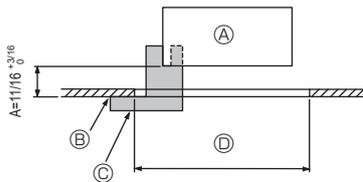
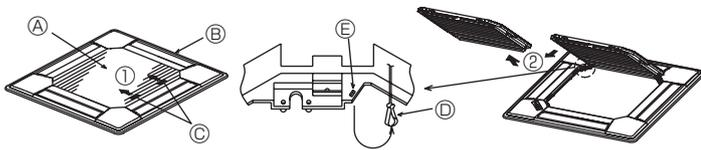
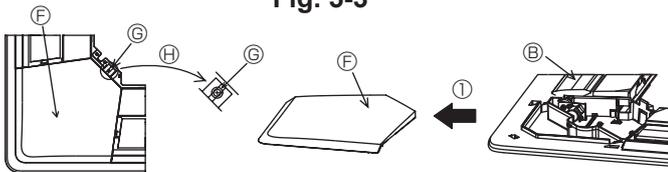

Fig. 5-2
Fig. 5-3
Fig. 5-4
①	Grille	1	950 × 950 (mm), 37-3/8 × 37-3/8 (inch)
②	Screw with captive washer	4	M5 × 0.8 × 25
③	Gauge	1	(Divided into four parts)
④	Fastener	3
⑤	Screw	4	4 × 8
⑥	Screw	1	4 × 12
5.2. Preparing to attach the grille (Fig. 5-2)
- With the gauge ③ supplied with this kit, adjust and check the positioning of the unit relative to the ceiling. If the unit is not properly positioned relative to the ceiling, it may allow air leaks or cause condensation to collect.
- Ⓒ Gauge ③ (inserted into the unit)
5.2.1. Removing the intake grille (Fig. 5-3)
- Slide the levers in the direction indicated by the arrow ① to open the intake grille.
- With the intake grille in the "open" position, remove the hinge of the intake grille from the grille as indicated by the arrow ②.
5.2.2. Removing the corner panel (Fig. 5-4)
- Remove the screw from the corner of the corner panel. Slide the corner panel as indicated by the arrow ① to remove the corner panel.
[Fig.5-3, 5-4]